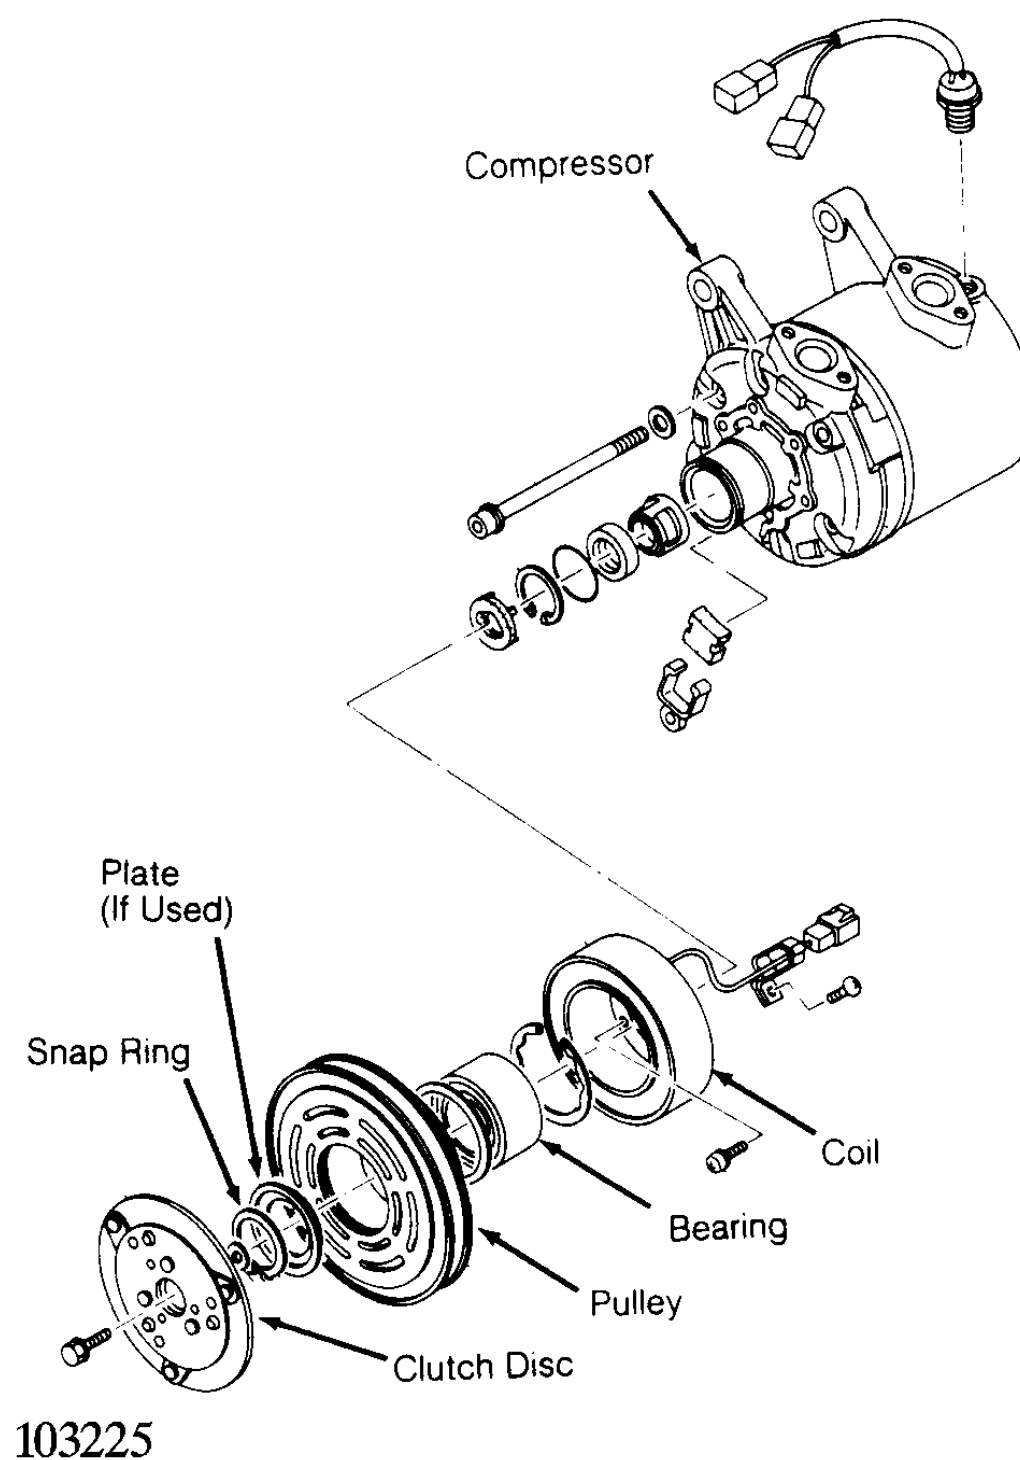

Fig. 4: Diesel Kiki Rotary Vane Compressor
3. Be careful not to scratch shaft or bend pulley. Using an impact driver, loosen 6 coil mounting screws. Remove key and clutch coil. See Fig. 4.
Using clutch holder to prevent clutch disc rotation, remove bolt. Using clutch holder and puller, remove clutch disc. Remove shims from compressor drive shaft or clutch disc. Remove snap ring with external snap ring pliers and then remove pulley. Using a gear puller, remove pulley. Remove coil lead wire and 6 screws. Remove coil. To install, reverse removal procedure. Adjust clutch disc-to-pulley clearance to .010-.020" (.3-.6 mm). See Fig. 4.